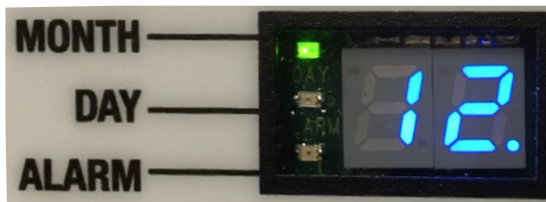

fig. 3
- Green LED on, blinking decimal point to the right = System Check OK, UV System is operational. (fig. 3)